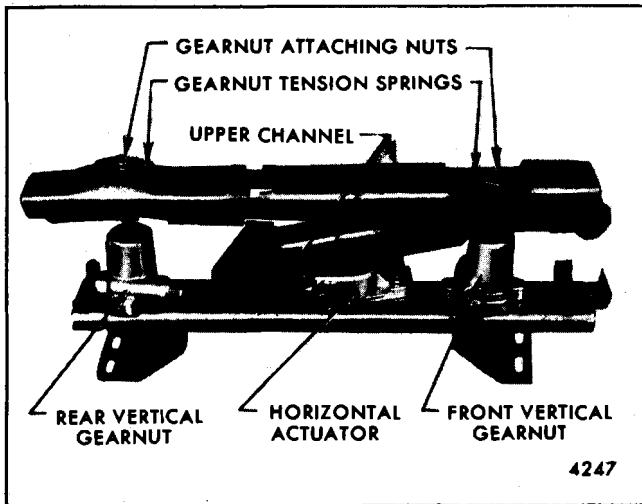
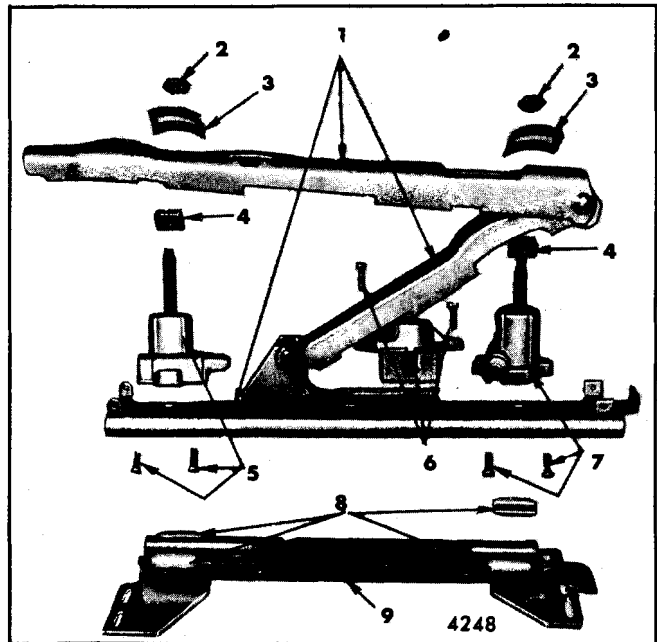

Fig. 14-18-Six-Way Seat Adjuster - "B, C and E" Styles
Fig. 14-19-Six-Way Seat Adjuster Components - "B, C and E" Styles
4. At top of adjuster remove front and rear vertical gearnut attaching nuts and tension springs (Figs. 14-18 and 14-19).
5. Lift front of adjuster upper channel upward; then remove screws securing horizontal actuator to adjuster upper channel assembly and remove actuator from adjuster (Figs. 14-18 and 14-19).
5. At top of adjuster, remove both vertical gearnut attaching nuts and tension springs (Figs. 14-18 and 14-19).
6. Lay adjuster on its side and remove front vertical gearnut attaching screws; then, remove gearnut from adjuster (Fig. 14-19).
7. If front vertical gearnut is being replaced with a new part, transfer gearnut shoulder nut and tension spring to new gearnut assembly (Fig. 14-19).
4. At top of adjuster, remove both vertical gearnut attaching nuts and tension springs (Figs. 14-18 and 14-19). Lift front of adjuster upper channel upward; then, remove horizontal actuator attaching screws and remove horizontal actuator from adjuster (Fig. 14-19).